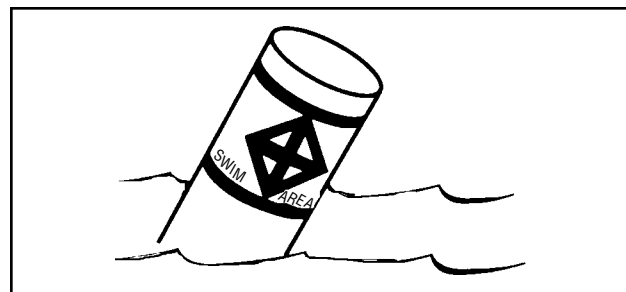

FIGURE 2.12 SWIM AREA BUOY
9. Swim only in areas designated as safe for swimming. These are usually marked with a swim area buoy (**Figure 2.12**). Do not swim alone or at night.